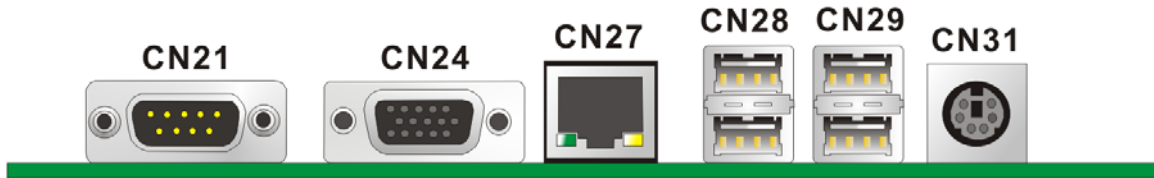

Figure 4-27: NANO-LX CPU Board Rear Panel
Figure 4-27 shows the NANO-LX CPU board rear panel. The peripheral connectors on the back panel can connect to external devices when the SBC is installed in a chassis. The peripheral connectors on the rear panel are:
- CN Location:** See Figure 4-27
- CN Location:** See **Figure 4-27**